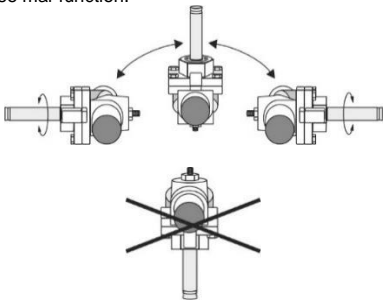

Fig. 1
- Valves may be mounted in horizontal or vertical lines (Fig. 1). Up-side down position is not allowed and can cause mal-function.